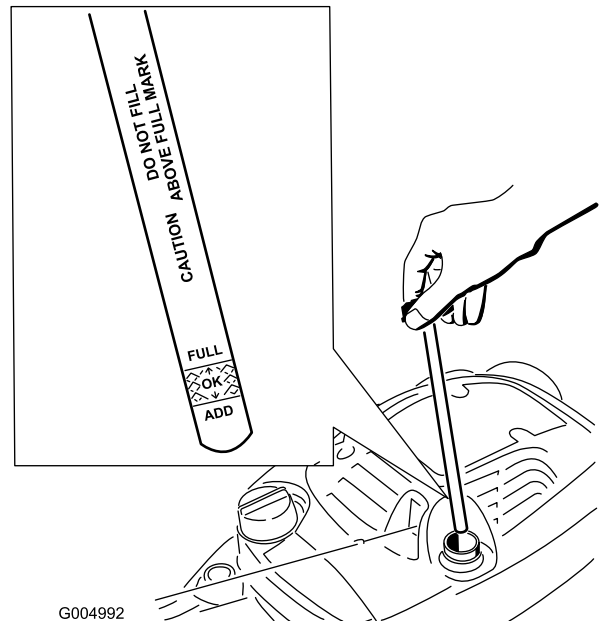

Figure 6
1. Remove the dipstick (Figure 6).
2. **Slowly** pour oil into the oil fill tube until the oil level reaches the **Full** line on the dipstick (Figure 6). **Do not overfill.** (Max. fill: 20 oz., type: SAE 30W detergent oil with an API service classification of SF, SG, SH, SJ, SL, or higher.)